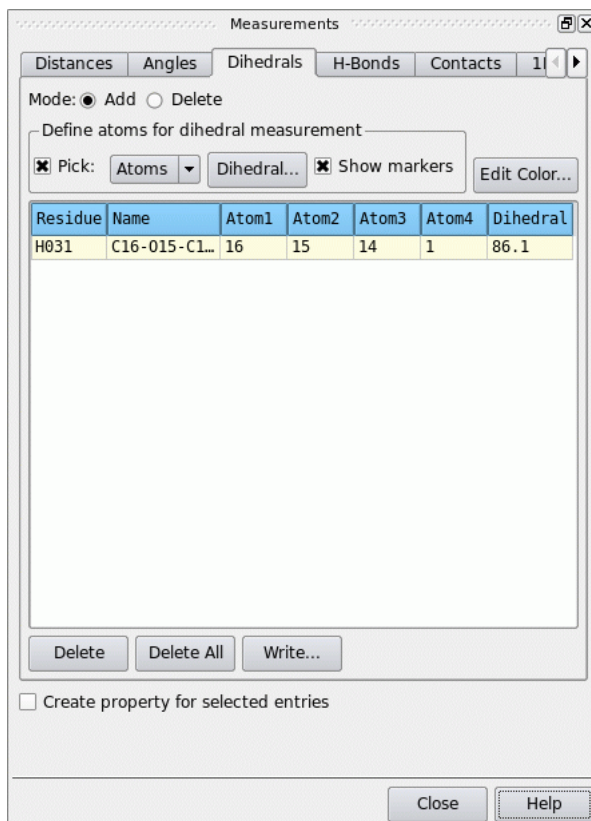

Figure 2.12. The Measurements panel showing the Dihedrals tab.
5. Select Create property for selected entries (see Figure 2.12).